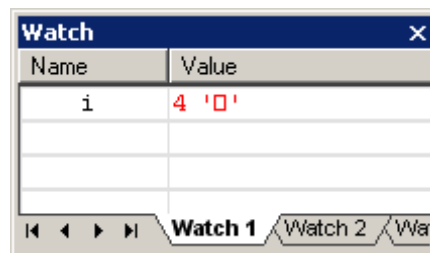

Figure 9: Watch window for C variables.
- To monitor a C variable, select the variable name in the code window and click menu **Debug | Quick Watch**. The variable will be added to a watch window, as in Figure 9.